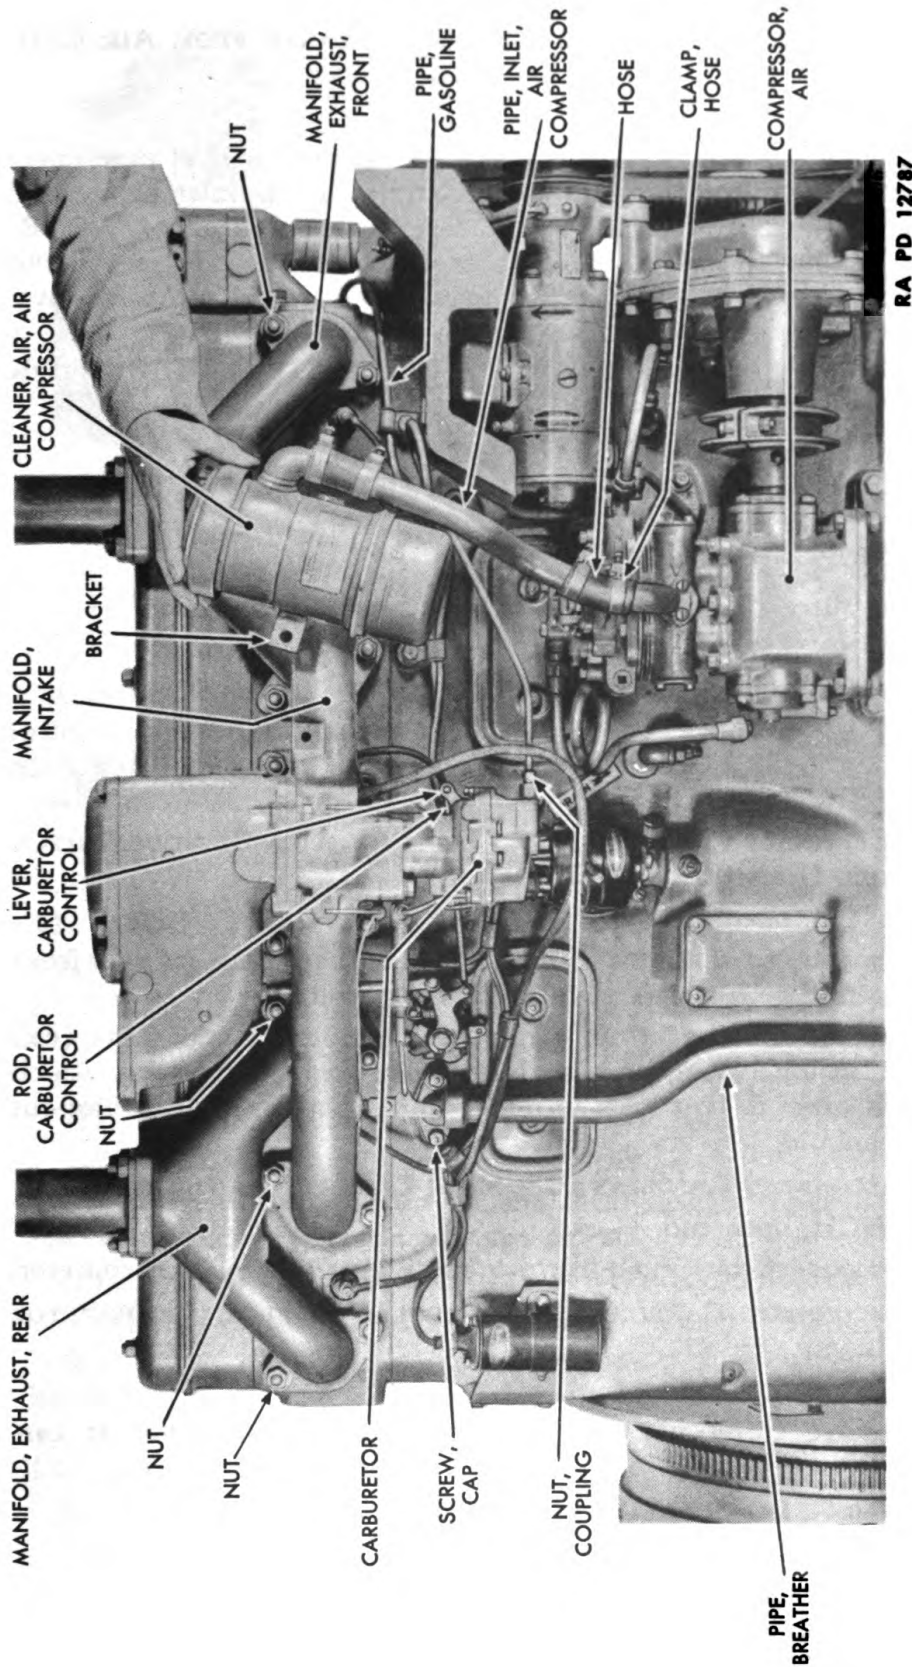

Figure 22—Air Compressor Air Cleaner Removal
39. AIR COMPRESSOR AIR CLEANER REMOVAL (fig. 22).
(3) DISCONNECT GASOLINE PIPE FROM CARBURETOR (fig. 22).
(4) DISCONNECT CARBURETOR CONTROL ROD FROM CARBURETOR CONTROL LEVER (fig. 22).
(5) REMOVE INTAKE MANIFOLD (fig. 22).
(1) REMOVE BREATHER PIPE (fig. 22).
(1) REMOVE REAR EXHAUST MANIFOLD (fig. 22).
(2) REMOVE FRONT EXHAUST MANIFOLD (fig. 22).